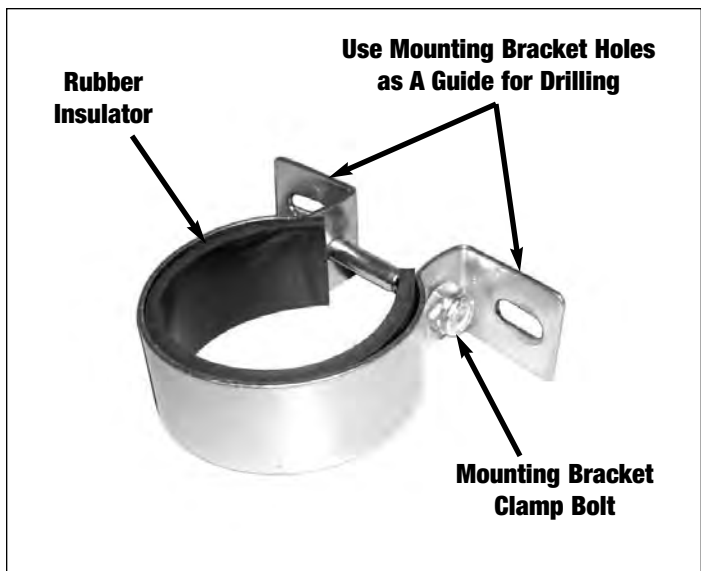

Figure 1 - Fuel Pump Mounting Bracket
3. Determine the new fuel pump mounting location. Replace existing fuel lines as necessary for proper fitment. Mark and drill mounting bracket holes using the bracket as a template (**See Figure 1**).
8. Connect and tighten fuel lines to the inlet and outlet. Then tighten mounting bracket clamp bolt (**See Figure 1**).